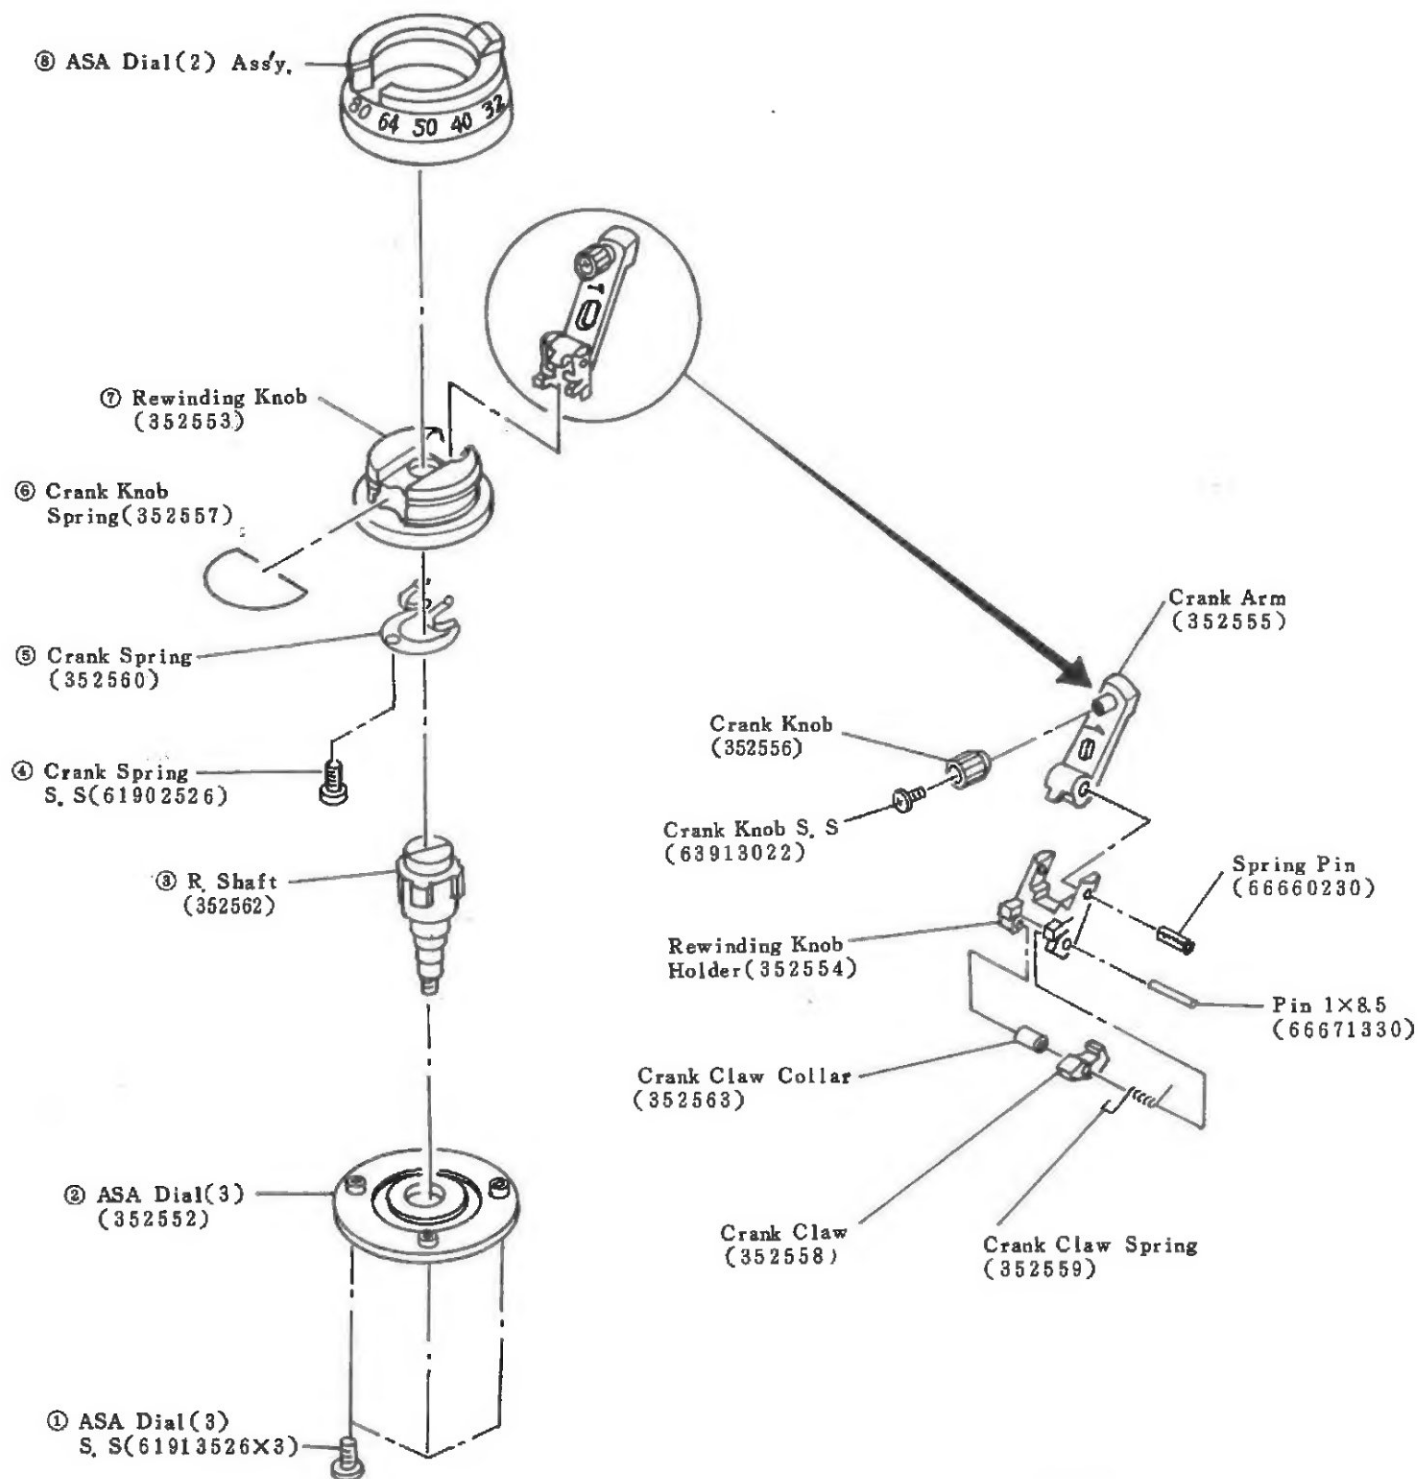

Fig 5
(4) Disassembling of the Rewinding Knob Ass'y.;
Remove the respective parts ①~⑭ shown in (Fig 5) in numerical order.